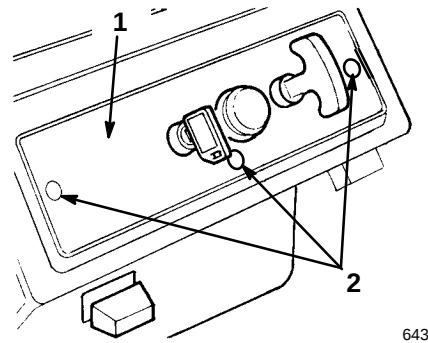

Figure 19
1. Remove the three mounting screws that secure the control panel to the housing (Fig. 19).